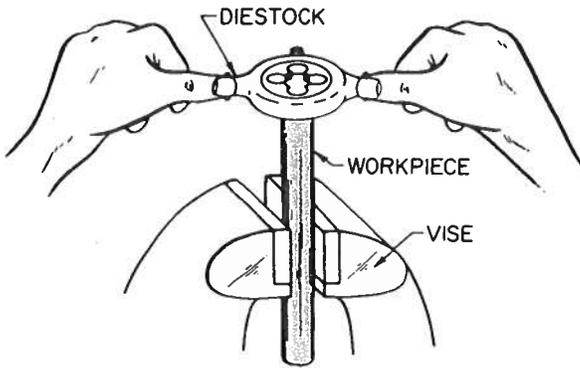

Fig. 20-9 Placing the hands near the die on the diestock is important when starting a thread.
6. Hold the diestock with both hands near the die (Fig. 20-9). **Keep the die as square as possible with the rod.** Press down firmly and at the same time slowly rotate the die clockwise. Larger die sizes require more pressure to get the die started. After two or three threads have been cut, heavy pressure on the die is no longer necessary. The die will continue to screw itself onto the rod as it is rotated.